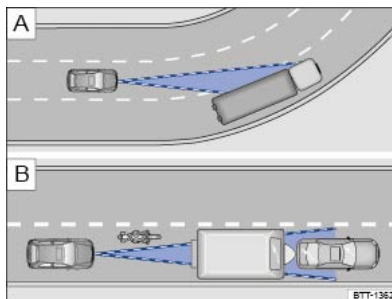

Fig. 143 Driving through bends. Vehicles outside the range of the radar sensor.
The radar sensor always measures straight ahead. For this reason, vehicles may be incorrectly detected or vehicles driving ahead not detected in tight bends ⇒ Fig. 143 [A].
- Vehicles that are driving outside the sensor range in close proximity to your vehicle, e.g. motorbikes ⇒ Fig. 143 [B].